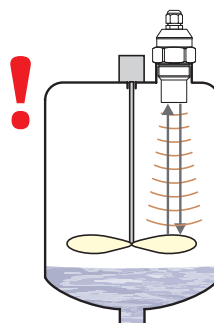

Fig. 12: False reflection caused by mixer blade
- o) False surface reflections of the ultrasonic signal might result as a consequence of **rotating mixer's blades** that ripple the surface level and thus cause unreliable level meter's functioning (Fig. 12).